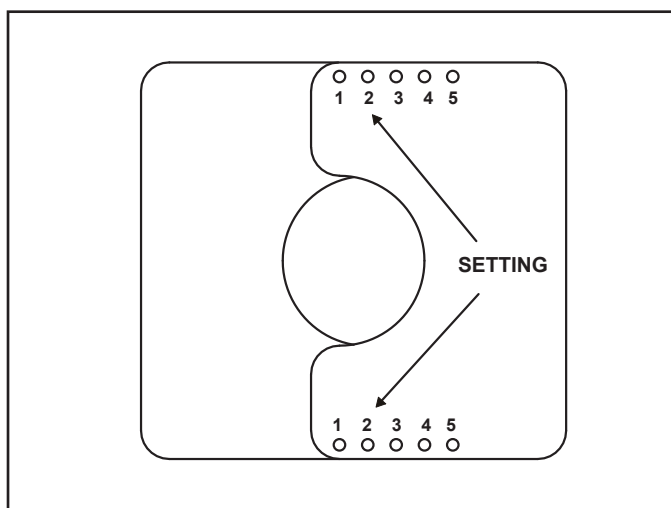

Figure 4.17 Set the Exhaust Restrictor
3. The setting for MEZZO36-C, MEZZO48-C, MEZZO60-C and MEZZO72-C is a 2.5 inch setting, or 2-2. Align the holes marked "2" on the numbered exhaust restrictor piece with the hole on the other exhaust restrictor piece. See Figure 4.17. Align the exhaust restrictor pieces with the pilot holes in the inner firebox chamber. Use two 1/2 inch self-piercing screws to secure vent restrictor to firebox heat shield.
2. The setting for MEZZO36ST-C, MEZZO48ST-C, MEZZO60ST-C, and MEZZO72ST-C is a 2.5 inch setting, or 2-2. Align the holes marked "2" on the numbered exhaust restrictor piece with the hole on the other exhaust restrictor piece. See Figure 4.17. Center the exhaust restrictor on the vent and secure in place with two 1/2 inch self-piercing screws.